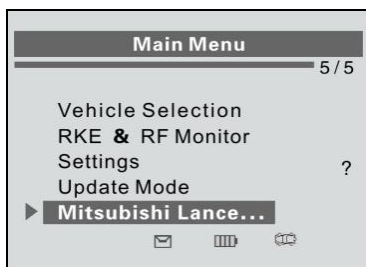

Figure 3.13
- 1) Use **UP/DOWN SCROLL** button to select **Latest Scan** (In our example, this is **Mitsubishi Lance**) from **Main Menu** (Figure 3.13), place the device alongside the valve stem and press **Y** button to confirm.